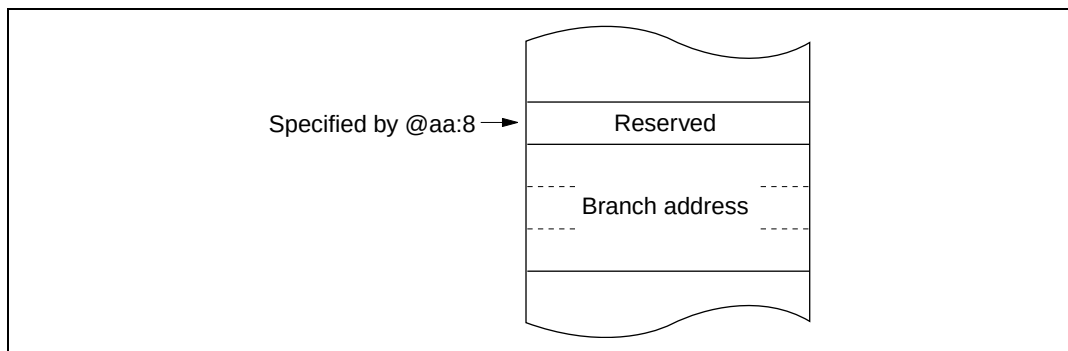

Figure 2.10 Memory-Indirect Branch Address Specification
8. Memory Indirect—@@aa**:8:** This mode can be used by the JMP and JSR instructions. The instruction code contains an 8-bit absolute address specifying a memory operand. This memory operand contains a branch address. The memory operand is accessed by longword access. The first byte of the memory operand is ignored, generating a 24-bit branch address. See figure 2.10. The upper bits of the 8-bit absolute address are assumed to be 0 (H'0000), so the address range is 0 to 255 (H'000000 to H'0000FF). Note that the first part of this range is also the exception vector area. For further details see section 5, Interrupt Controller.